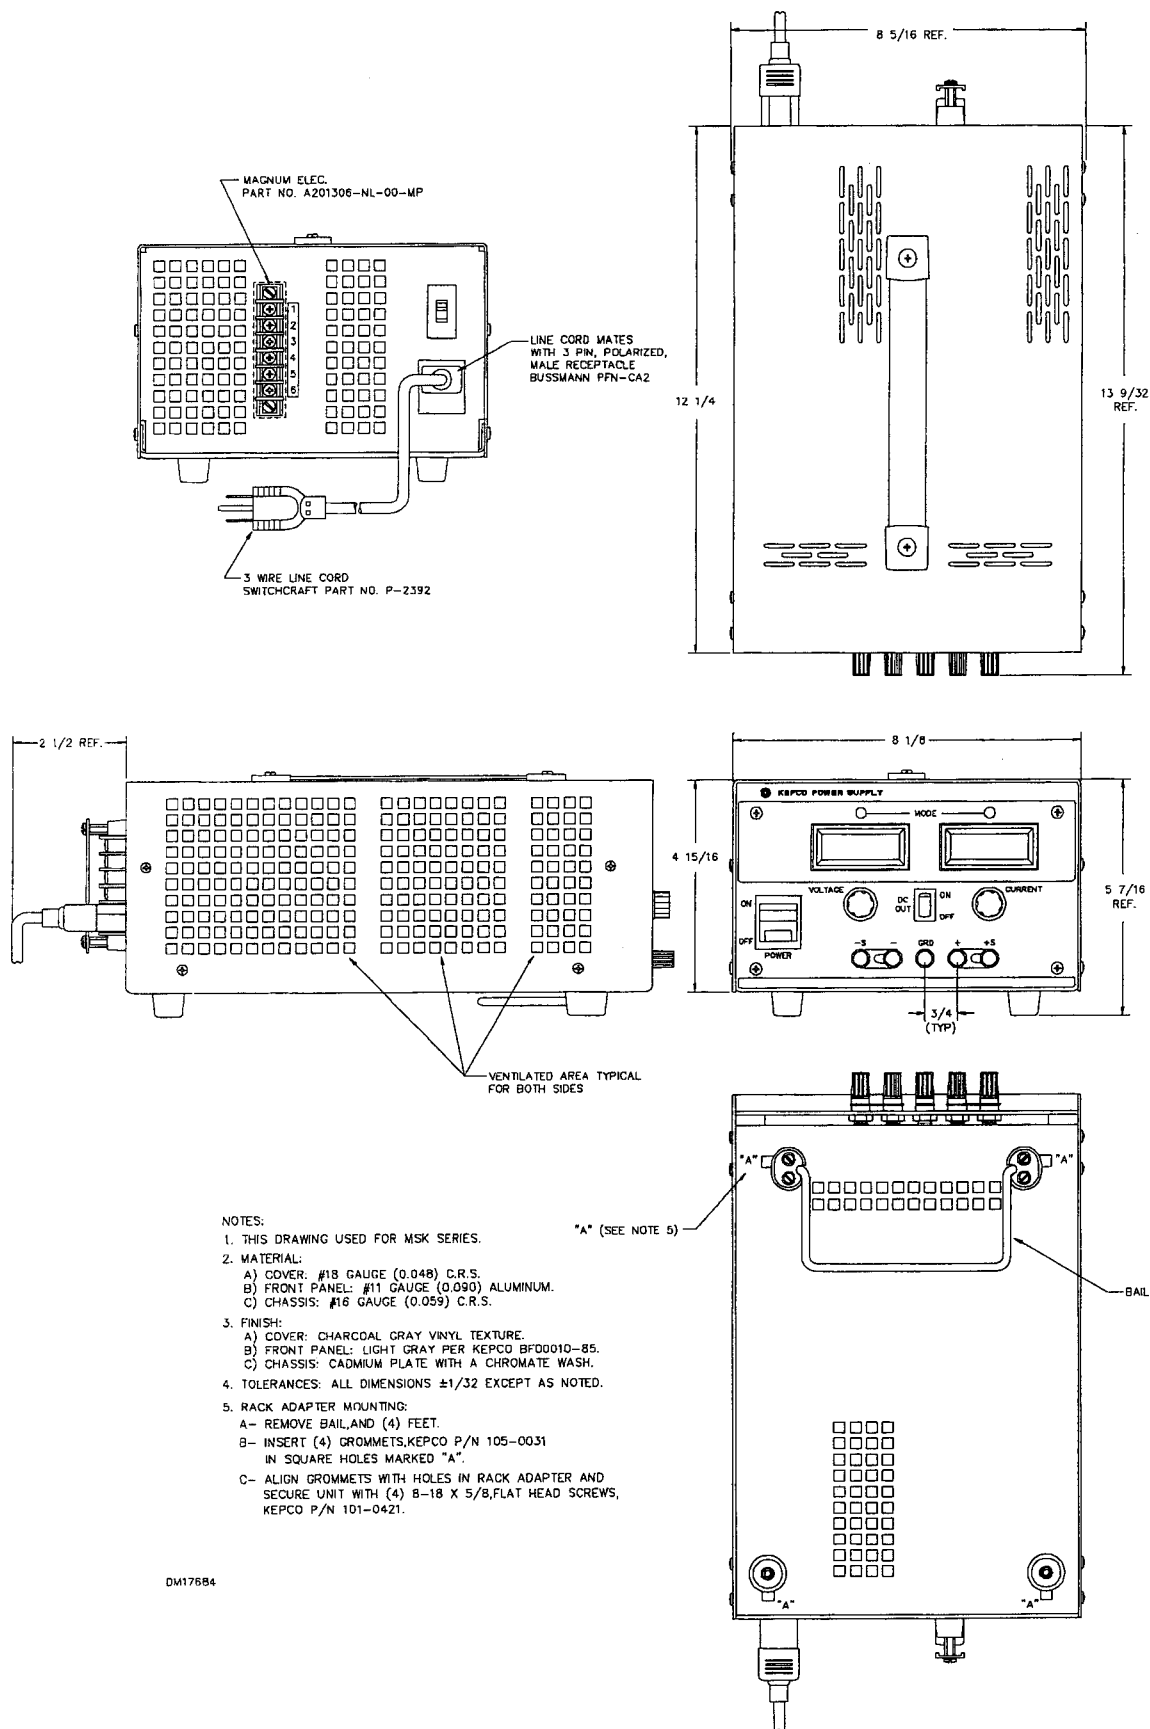

FIGURE 2-3. MECHANICAL OUTLINE
- 2-2 The unit may be operated on a bench or any suitable flat surface, see Figure 2-3 for Outline Drawing. The tilting ball on the front bottom of the case elevates the unit to an angle for convenient viewing of the operating controls. Output and sense binding posts are provided at the front of the unit. Either the + or the - terminal may be connected or referred to ground.